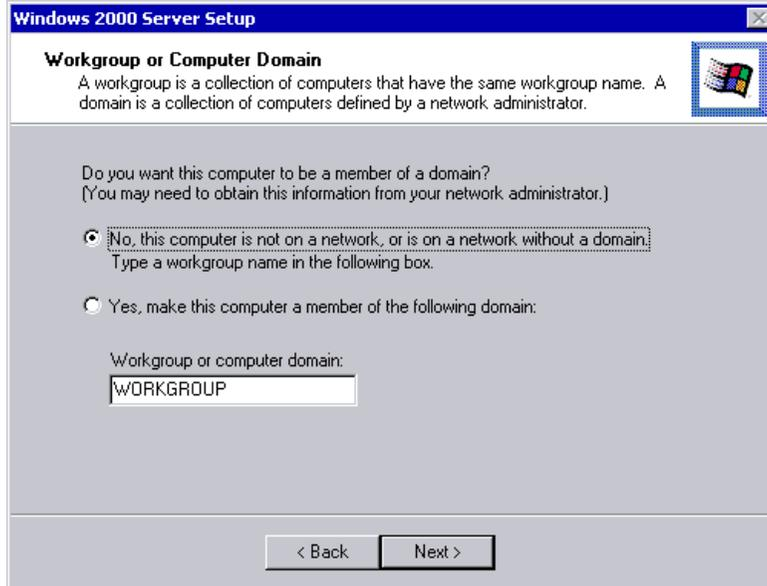

Figure 61. Workgroup or Computer Domain
16. The member of a Workgroup or Domain is shown in Figure 61.